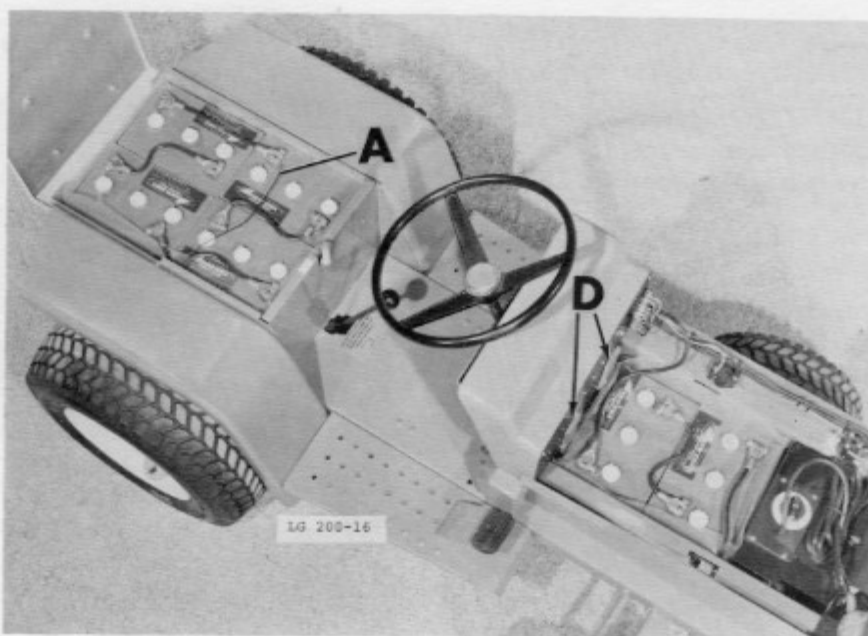

Figure 31
5. Insert the black wooden spacer "D" Fig. 31 between the bag and the front side of the control panel.
ATTACH WIRE NUMBER 12 "A" FIG 31